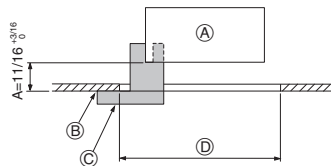
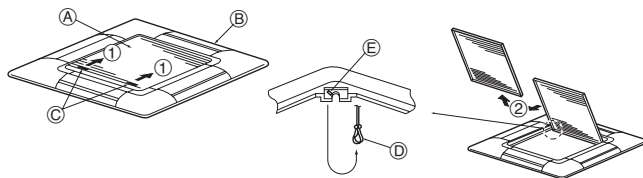
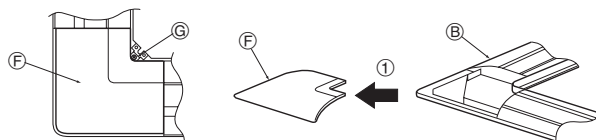

Fig. 9-2
Fig. 9-3
Fig. 9-4
①	Grille	1	950 × 950 (mm), 37 - 3/8 × 37 - 3/8 inch
②	Screw with captive washer	4	M5 × 0.8 × 25
③	Gauge	1	(Divided into four parts)
④	Fastener	2
⑤	Screw	4	4 × 8
⑥	Wired remote controller	1	for PLP-42AAMD
9.2. Preparing to attach the grille (Fig. 9-2)
- With the gauge ③ supplied with this kit, adjust and check the positioning of the unit relative to the ceiling. If the unit is not properly positioned relative to the ceiling, it may allow air leaks or cause condensation to collect.
- C) Gauge ③ (inserted into the unit)
9.2.1. Removing the intake grille (Fig. 9-3)
- Slide the levers in the direction indicated by the arrow ① to open the intake grille.
- With the intake grille in the "open" position, remove the hinge of the intake grille from the grille as indicated by the arrow ②.
9.2.2. Removing the corner panel (Fig. 9-4)
- Remove the screw from the corner of the corner panel. Slide the corner panel as indicated by the arrow ① to remove the corner panel.